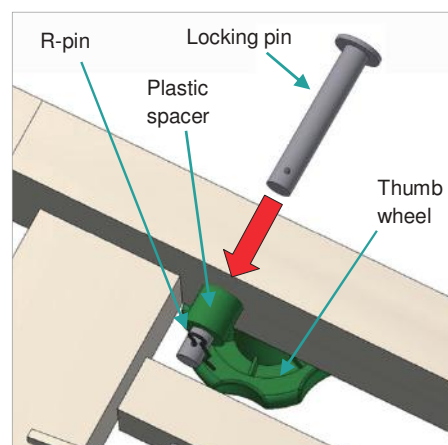

Figure 6: Securing platform sections
16. Tighten the mid-section thumb wheel and insert the locking pin, plastic spacer and R-clip (*Figure 6*). Repeat both sides. Re-apply the castor brakes.